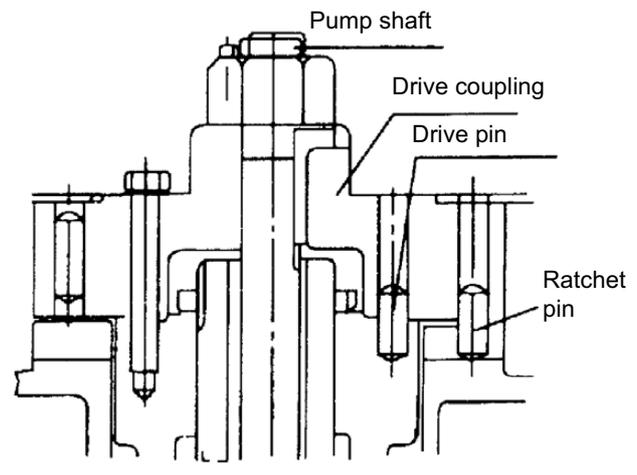

Fig. 10
3.4.8 Non-reverse ratchet/coupling, as Fig. 10 (If fitted)